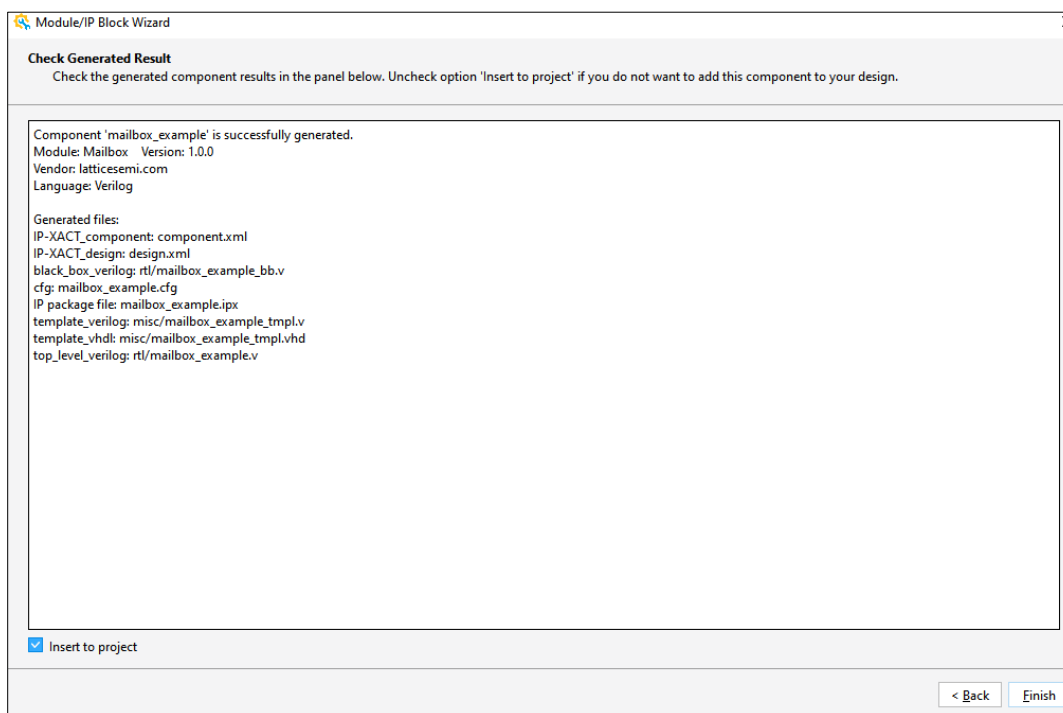

Figure 3.3. Verifying Results
4. Verify the information. Click **Finish** (Figure 3.3).